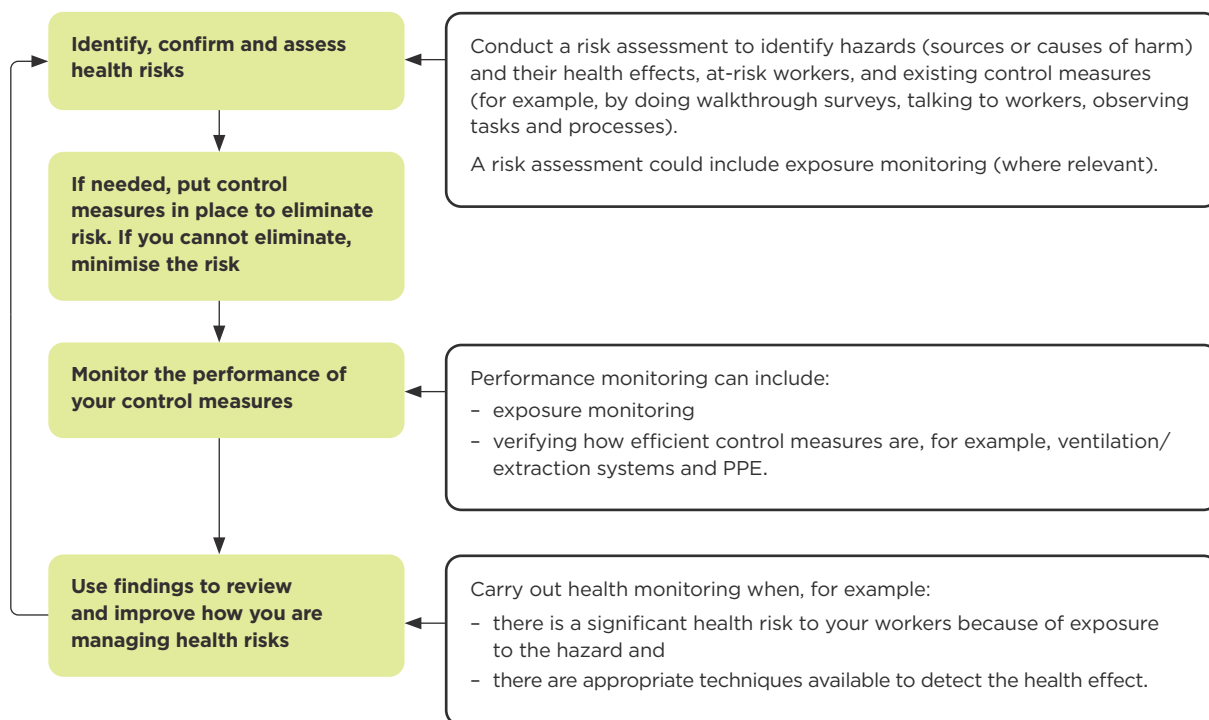

FIGURE 3: Role of exposure monitoring and health monitoring in managing health risks
- 3.5.6 Exposure monitoring and health monitoring – along with verifying that control measures are working effectively – can be used to manage health risks (Figure 3). Health monitoring can also confirm that control measures are preventing harm.